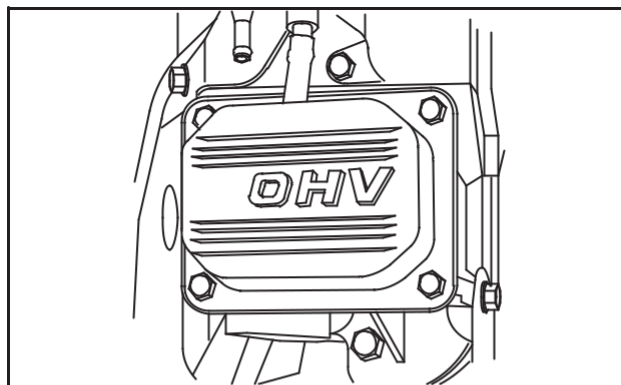

Fig. 18 – Install Valve Covers
3. Install valve covers with new gaskets, Fig. 18.